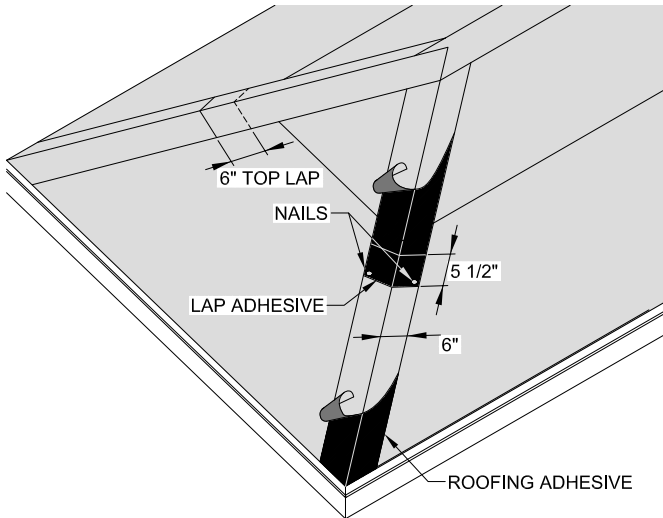

Figure 2 - Hips and Ridges: Concealed Fastener Installation
- h. Continue until the end of the hip or ridge is reached. (See Figure 2)